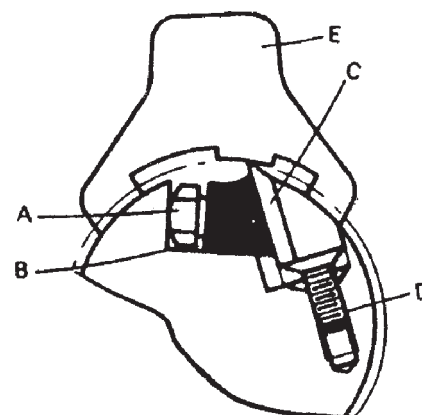

Figure 11. Knife Blade Gauge
2. *Please refer to Figure 11. when checking knife adjustment.* Position the knife Gauge (E) on the cutter head and knife blade as shown. The gauge must contact the knife blade and the cutter head at all three points shown. The blade is adjusted too low if there is a visible space between the blade edge and the gauge.